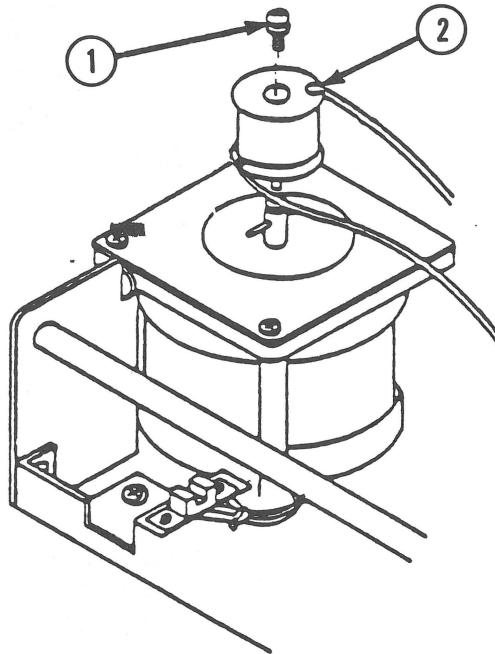

FIGURE 23
14. Use a Phillips screwdriver to remove the screw (Figure 23, #1) from the top of the motor pulley.
17. Remove the top end of the carrier wire (Figure 23, #2).